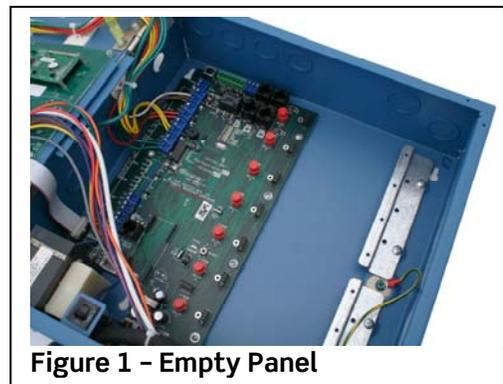

Figure 1 - Empty Panel
Step 2: Open relay panel (**Figure 1**).